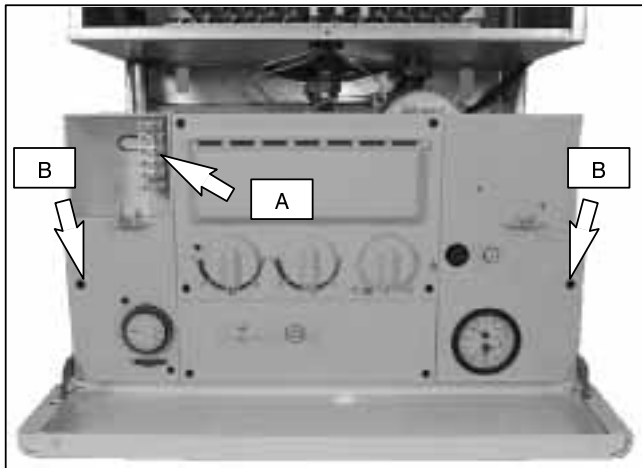

fig. 3.8
To reach the terminal block (A in fig. 3.8) lower the control, panel cover and remove the front panel of the case (see the section *maintenance*, section 6.2 in this manual).
- 1 Remove the two screws B in fig. 3.8 and turn over the control panel.